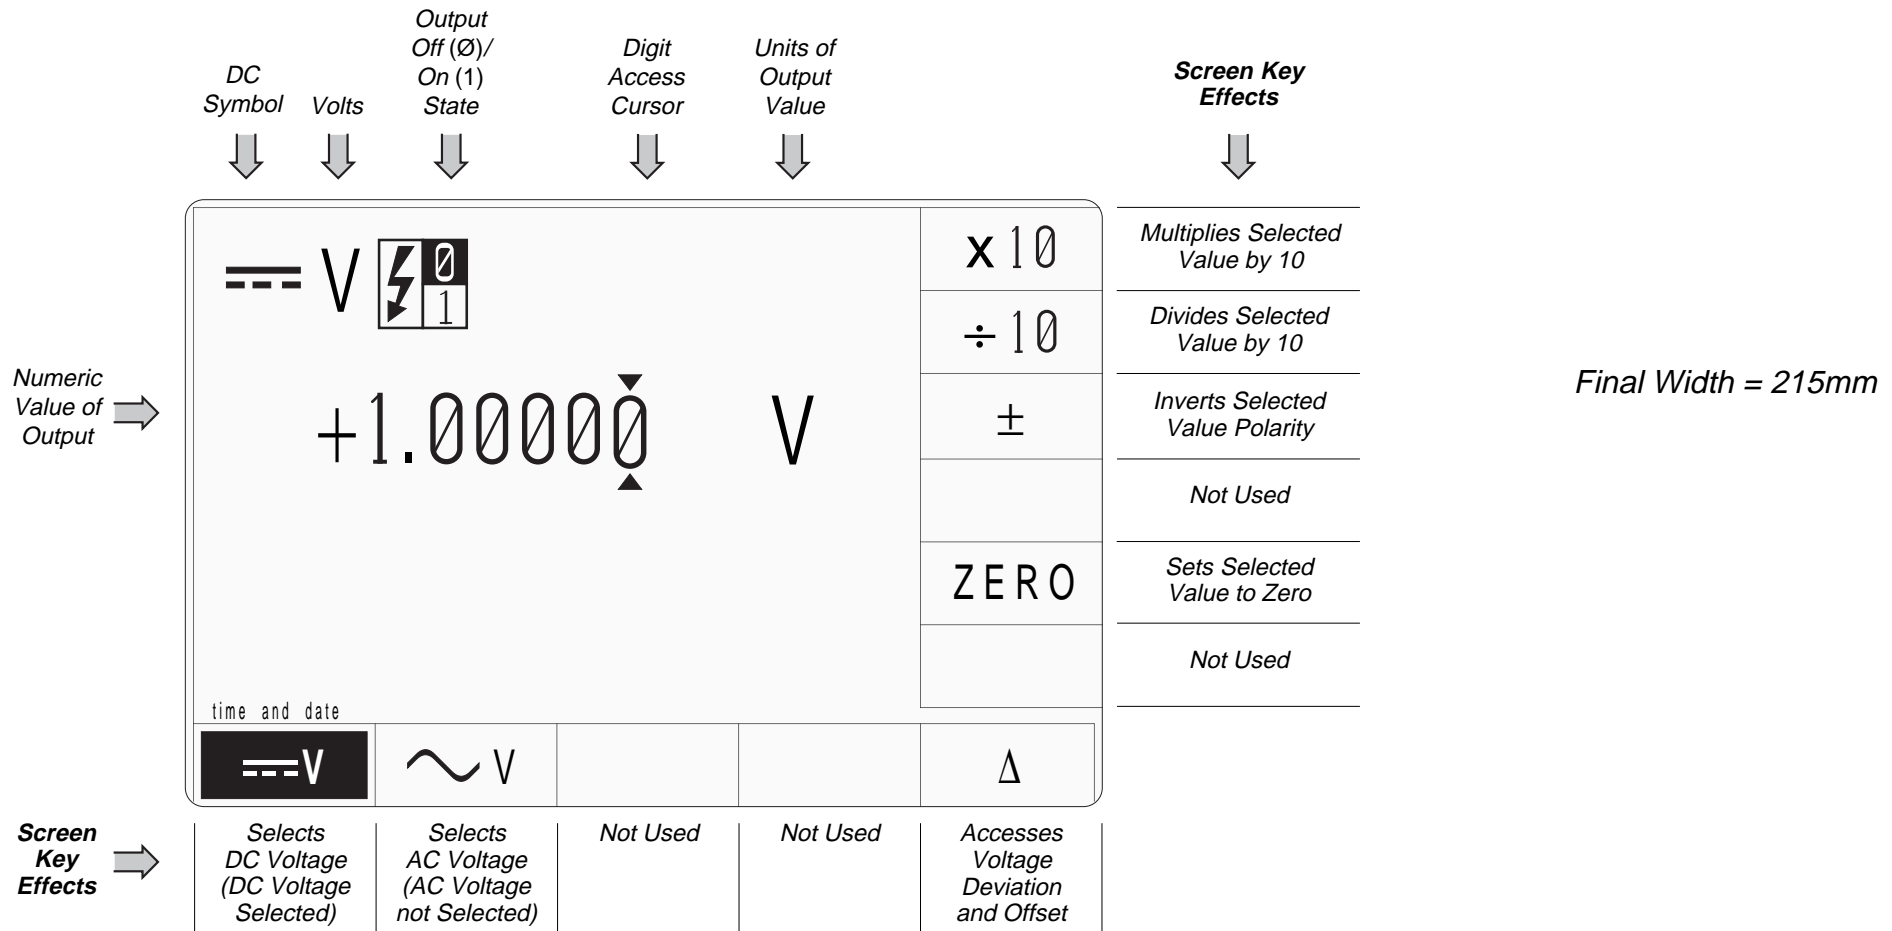

Fig. 3.4.1 DC Voltage Default Settings
Throughout the tutorials, you will see pointers (☞). Where these are found in the text, they identify instructions for you to follow, giving you manual practice. Arrows (➡) are used to indicate important points on diagrams etc. (see *Fig. 3.4.1* opposite).
- ☞ Ensure that the 9100 is installed and switched on as detailed in Section 2. If, after selecting Manual mode, the display does not correspond to Fig. 3.4.1 below, press the **V** key in the top right corner of the front panel.
- ☞ Familiarize yourself with Fig. 3.4.1. This is the default version of the DC Voltage menu screen, which will appear when you enter DCV Function for the first time (unless the default has been changed in Config Mode).
As we can see from *Fig. 3.4.1*, the numeric value of the 9100 output (whether OUTPUT is OFF or ON) is displayed in large characters just above the center of the screen. In Digit Edit, access to each digit is provided by a pair of enclosing triangles, called the 'Digit Access Cursor' (or just 'Cursor'). The cursor can be seen in *Fig. 3.4.1*, accessing the least-significant digit of the numeric value.